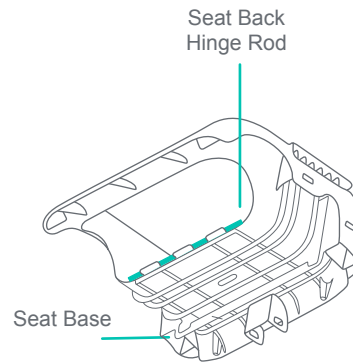

Fig. 1a
- 1) • First locate the seat base. From the rear of the seat base, remove the metal hinge rod from the base (Fig. 1a).